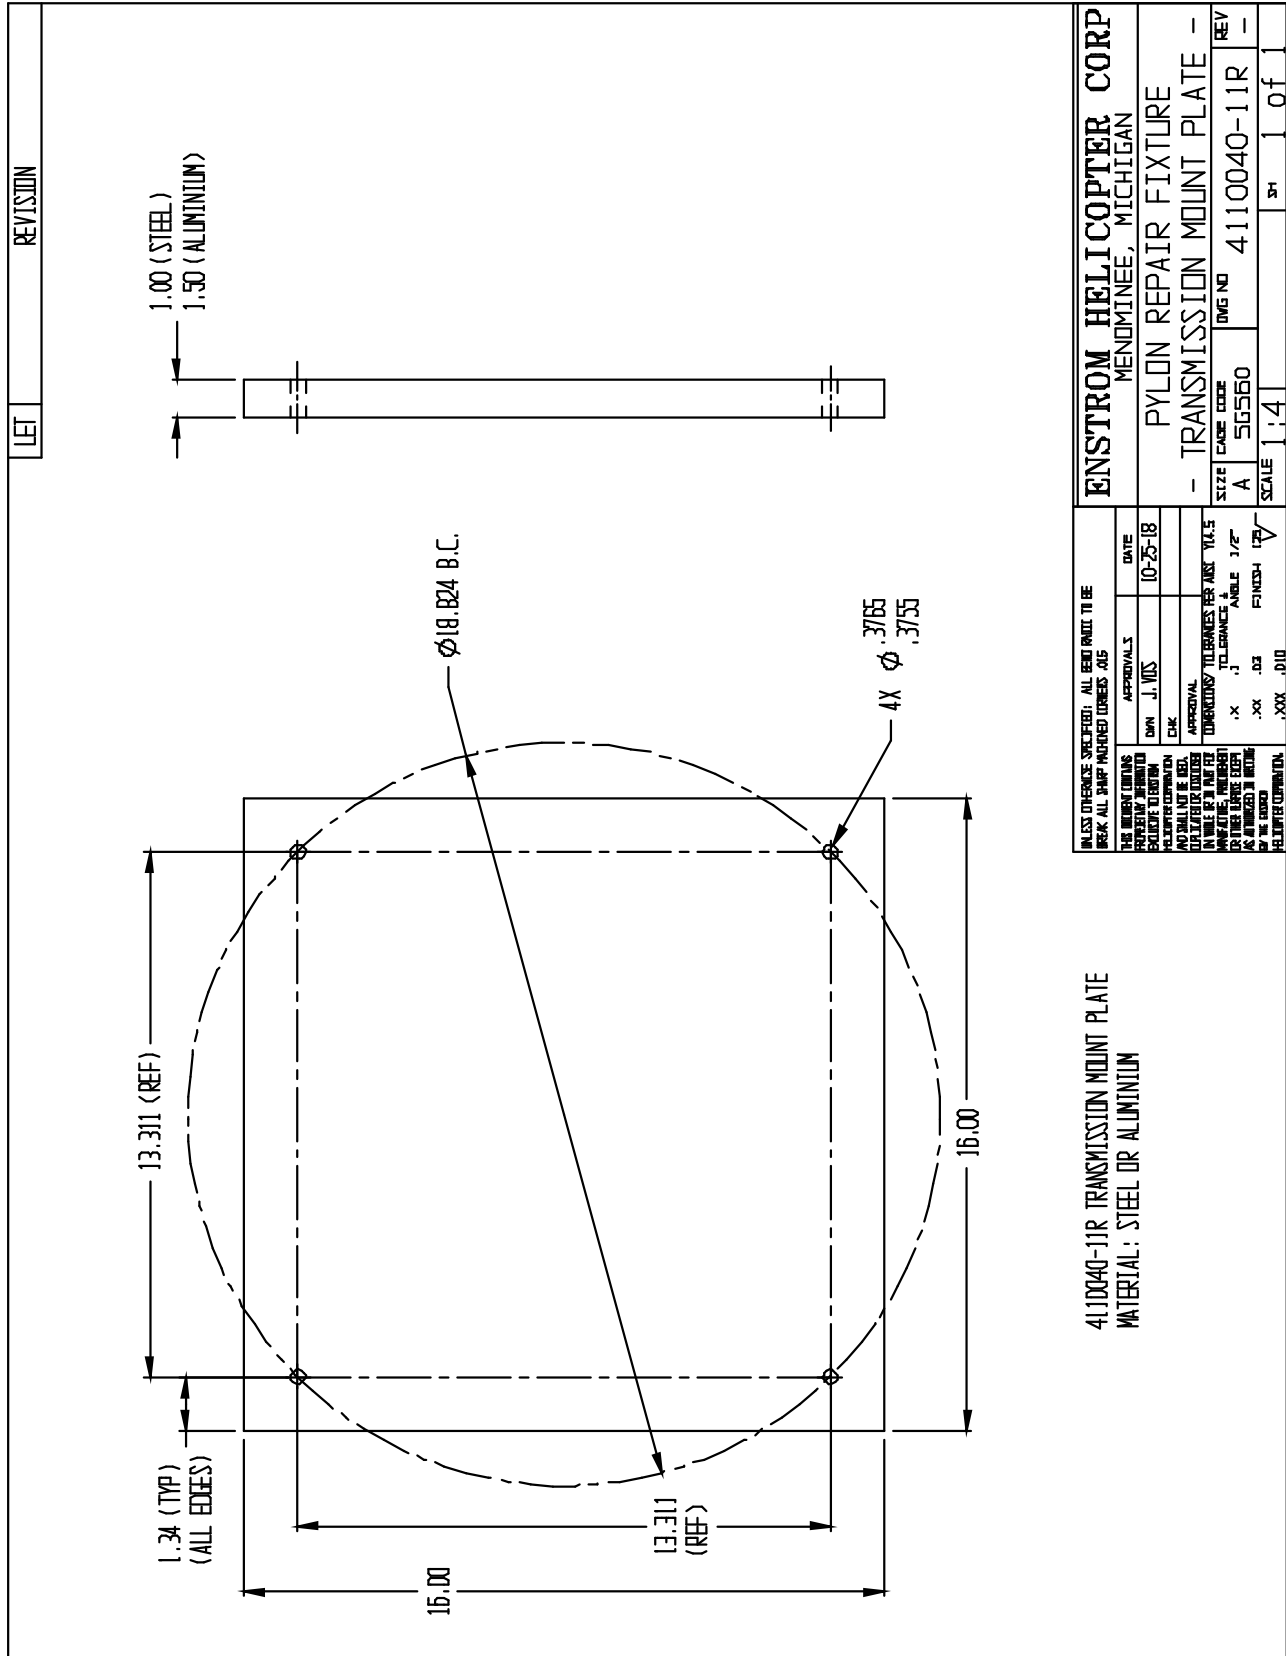

Figure 2. Drawing 4110040-11R – Pylon Repair Fixture, Transmission Mount Plate
- 6.7 Install P/N 4110040-11R pylon repair fixture or equivalent at the four transmission mounts using appropriate length NAS6206 or similar style bolt, NAS509-6 or similar style nut, and steel washers as required (reference Figure 2).
8. SPECIAL TOOLS: P/N 4110040-11R Pylon Repair Fixture (Figure 2)